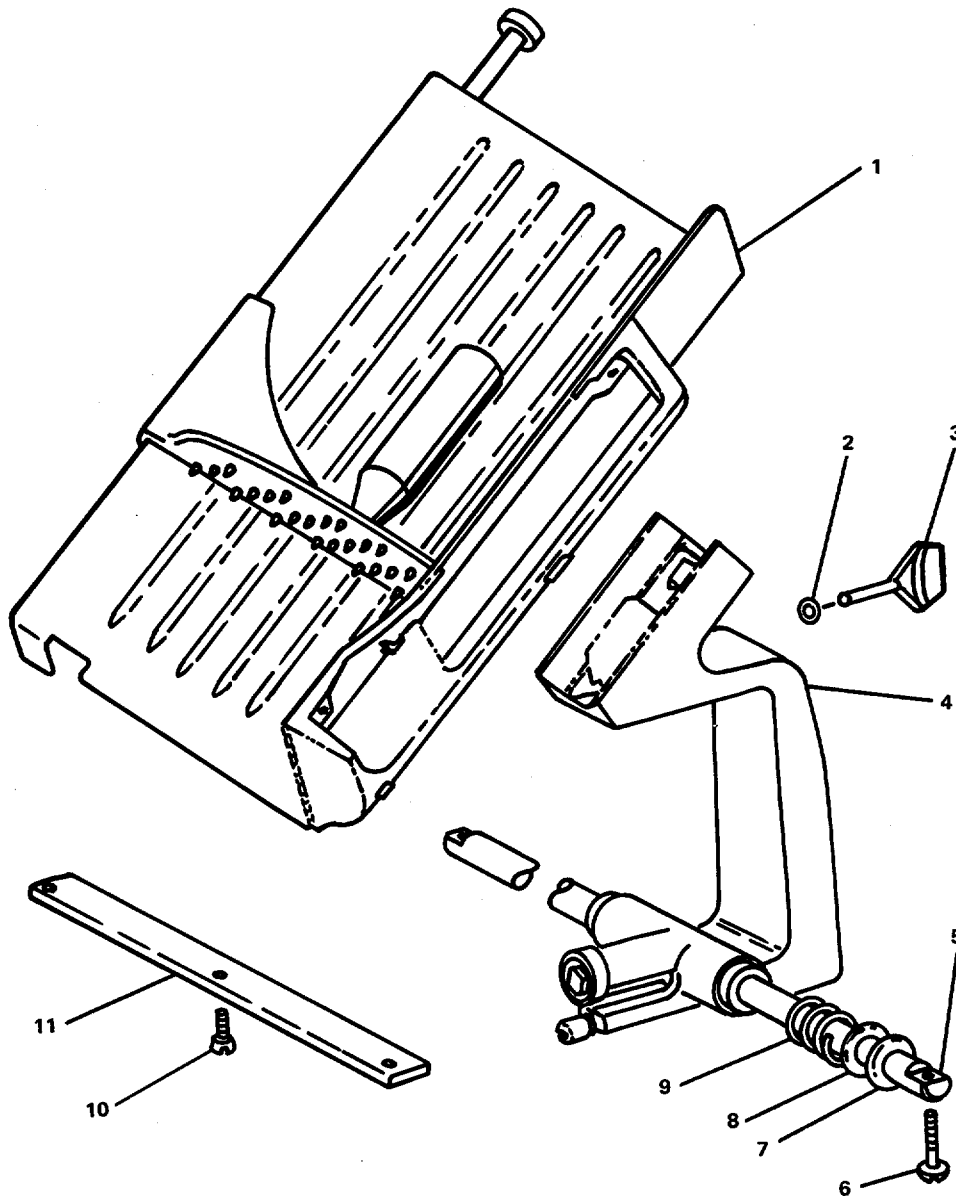

FIGURE 3-71. Repair Carriage Unit Assembly.
**3-69. Repair Carriage Unit Assembly. (Figure 3-71)**